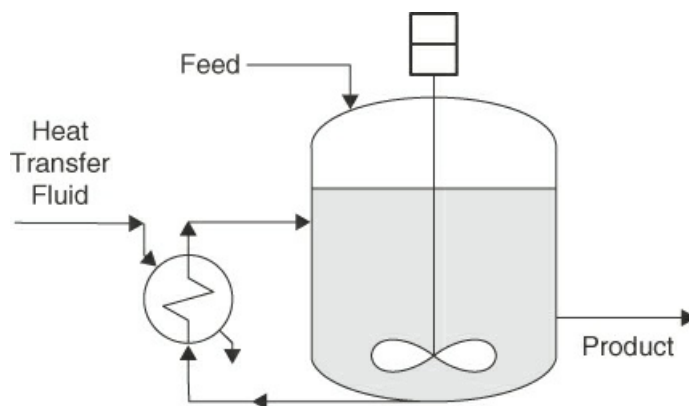

Figure 9.1 Schematic of a reactor
Consider the schematic of a reactor shown in Figure 9.1. If the reaction taking place in this reactor liberates thermal energy, the heat transfer fluid (e.g., cooling water) would remove the heat so that the reactor would operate at a desired temperature. Conversely, if the reaction consumes thermal energy, the heat transfer fluid (e.g., steam) would transfer heat to maintain the desired operating temperature. The material that follows demonstrates how to apply energy balances for systems that involve chemical reaction, such as the reactor shown in Figure 9.1. As you will also observe, chemical reactions usually have a dominant effect on the energy balance for a system.
- Show that for the process in Figure 9.1, the general energy balance reduces to $Q = \Delta H$. What assumptions do you have to make?